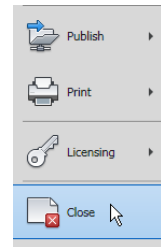

Figure 2-15
To close a project, choose the **Application** button and then choose the **Close** option from the **Application Menu** displayed, as shown in Figure 2-15. If you have already saved the latest changes, the project file will be closed. Otherwise, Revit will prompt you to save the changes through the **Save File** confirmation box. You can save the changes by choosing the **Yes** button or discard them by choosing the **No** button. You can also choose the **Cancel** button to return to the interface and continue working on the project file. You can also use the **Close** button (X) in the drawing window to close the project.